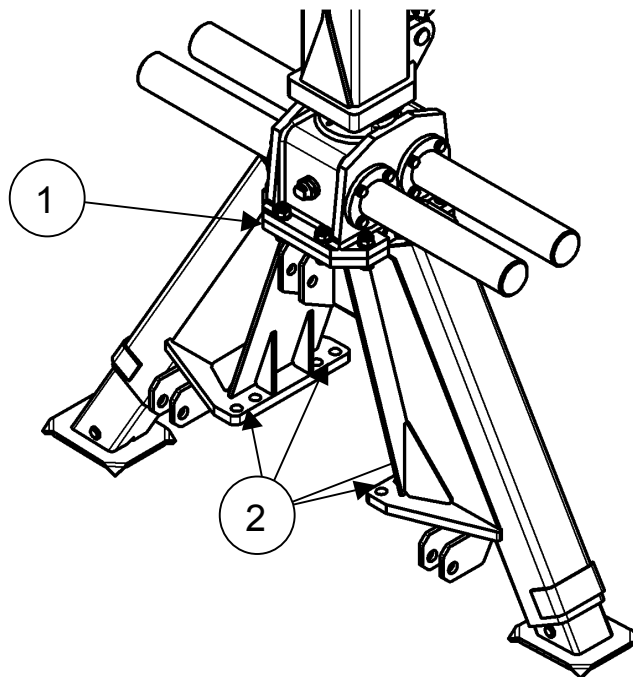

Figure 5. Connection junctions on Palms 680 support legs
Strength class for mounting bolts of slewing device-support legs (pos. 1, fig.5) and support legs-trailer (pos. 2, fig. 5) has to be 12.9 (DIN912). Use self-locking nuts M24. The tightening torque for the mounting bolts of the crane(pos. 1, fig. 5) and supporting legs(pos. 2, fig. 5) is 1220 Nm.